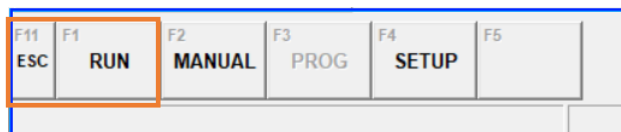

Figure 43 - ESC and RUN buttons
7. Exit the “PROG” page (by pressing the “ESC” button) and enter the GUI “RUN” page (by pressing the “RUN” button) at the bottom of the GUI screen. See (Figure 43 - ESC and RUN buttons).